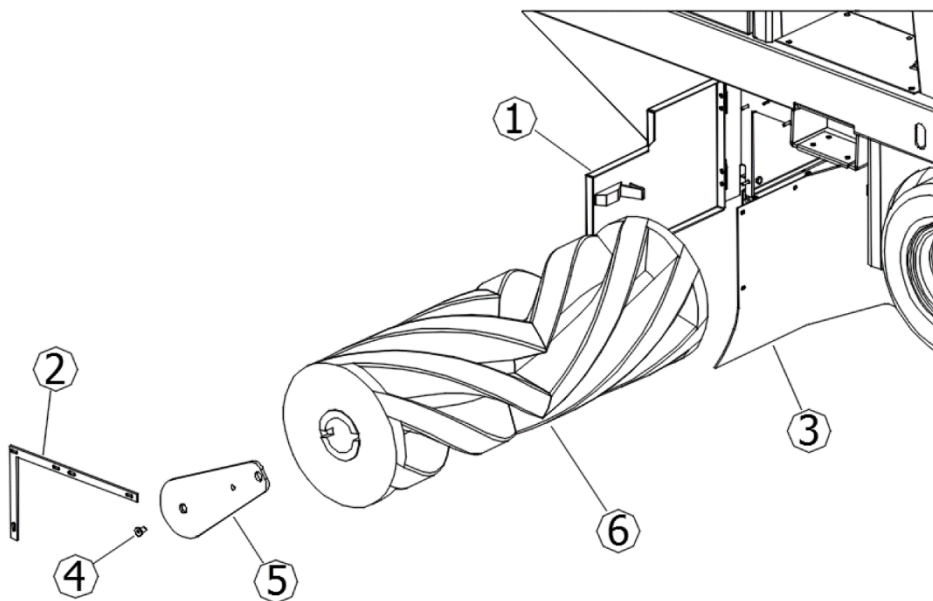

Figure 45
- Open the right side hatch (Item 1 Figure 45)
- Disassemble the right flap stop (Item 2 Figure 45)
- Move the flap (Item 3 Figure 45)
- Remove the screw (Item 4 Figure 45)
- Remove the support arm (Item 5 Figure 45)
- Remove the old brush (Item 6 Figure 45)